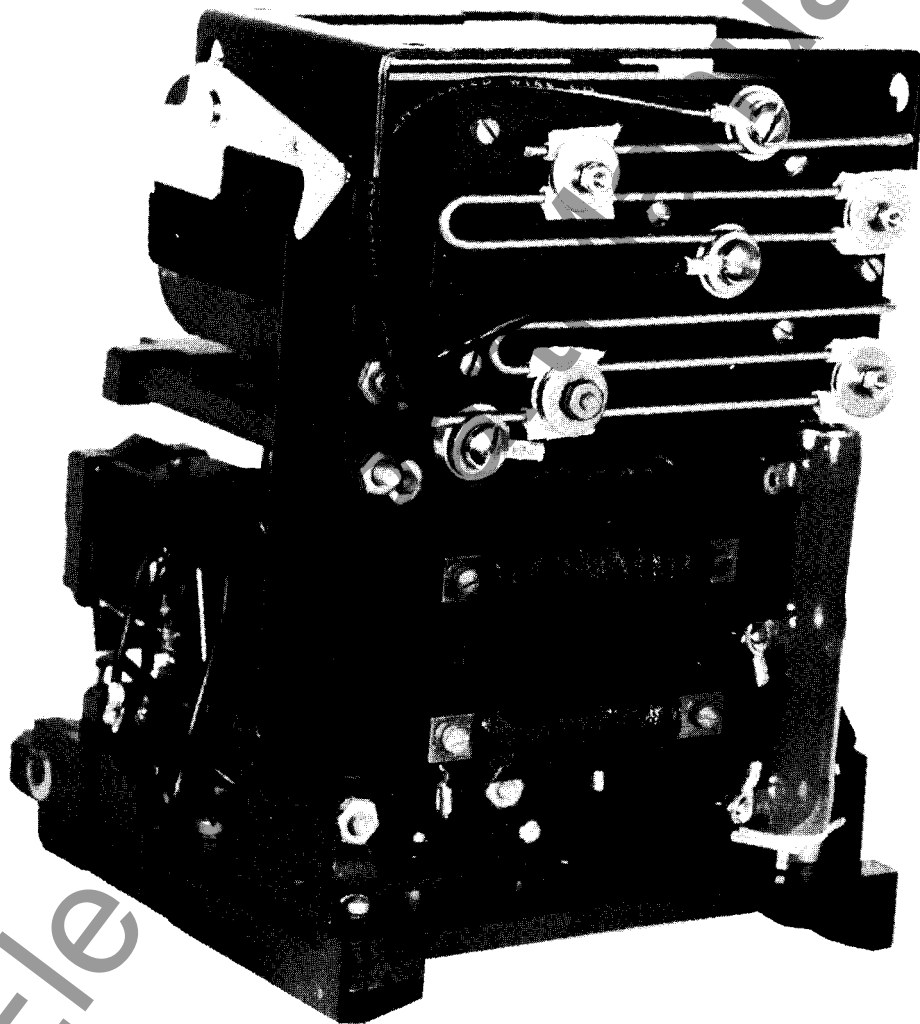
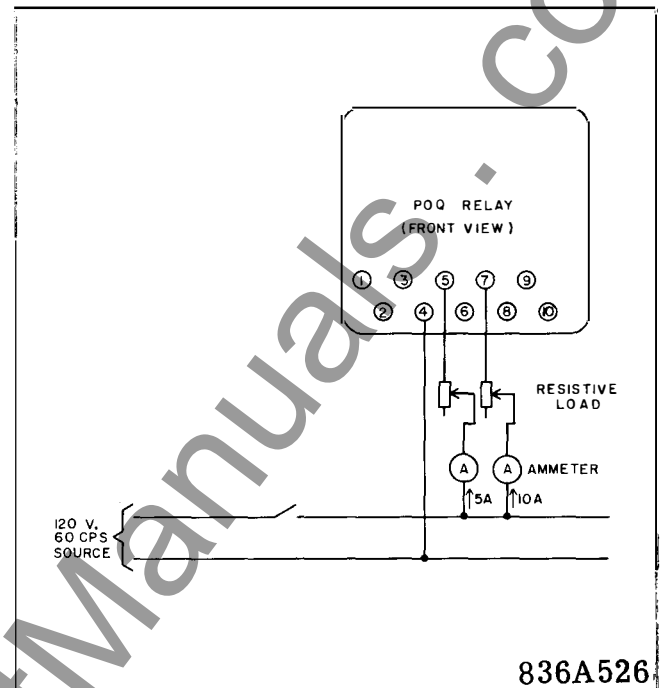

Fig. 2 Type POQ Relay in FT-21 case (Rear View).
Fig. 6 Test connections for the Type POQ Relay.
- Now measure voltage across terminal 5 and the top filter resistor screw connection (refer to Fig. 2). Adjust this connection until the voltmeter reads 1.73 times the reading obtained in part C.
- \* To adjust the filter resistor tap for no response to zero sequence currents, remove tap screw from POQ unit. Pass 10 amperes into terminal 7, 5 amperes into terminal 5 and out terminal 4 per Fig. 6. Connect a voltmeter between the top and bottom filter resistor connection (fig. 2). Adjust the middle connection until the voltmeter reads 2 minimum.